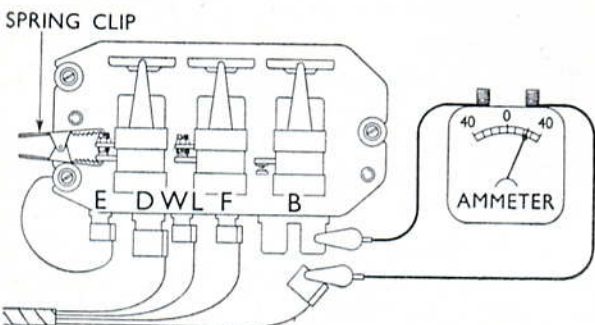

Fig. P.34. Current regulator, load setting. The voltage regulator is shorted by a clip
2. With the ammeter connected between terminal 'B' and the wire removed from the terminal, short circuit the voltage regulator contacts by means of a spring clip across the adjustable contact and the armature limb (Fig. P.34).